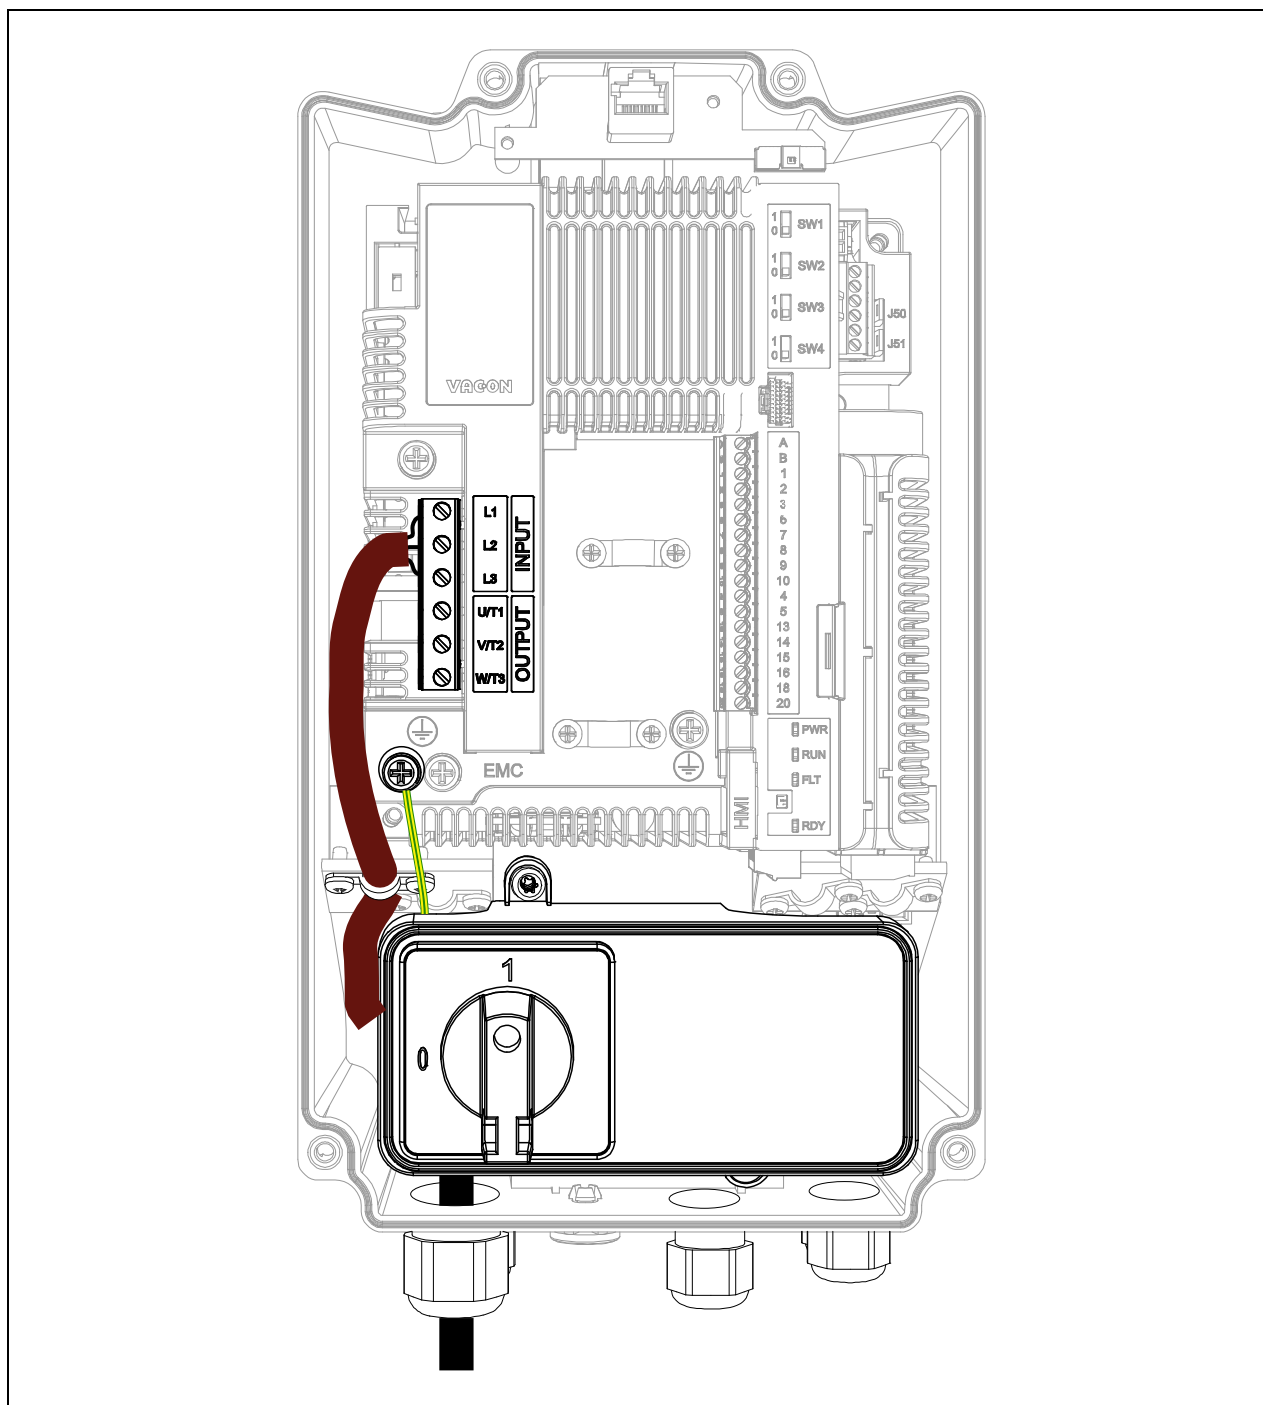

Figure 65. Mains switch and cables connected (MU2 3-phase example).
- Connect the GROUND wire to the proper terminal (see the yellow-green cable on Figure 65).